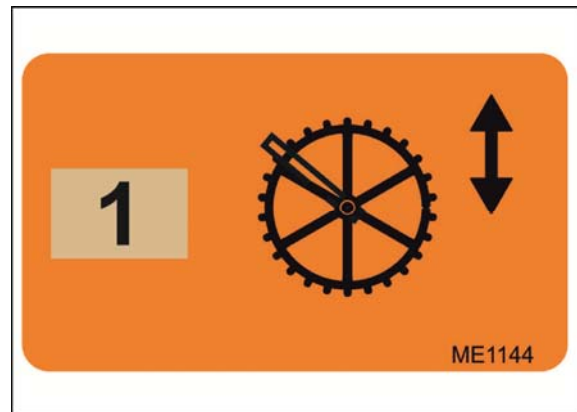
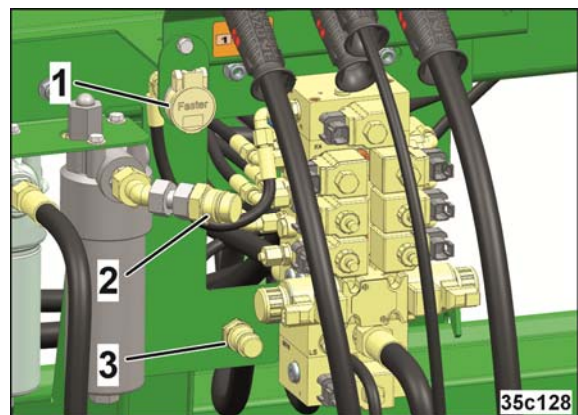

Fig. 39
Fig. 40
⁽¹⁾ ED xx00-2FC: In combination with a hydraulic seeding unit drive, the blower fan return flow from the front hopper must be fed into the seeding unit drive (Fig. 40/2). This is not unpressurised. In this case, an additional leak oil connection is available (Fig. 40/3).
- Star wheel lift-out (*beige*) (Fig. 39), only with standard and comfort hydraulic systems
- Star wheel lift-out (*beige*) (Fig. 39 on Fig. 40/1), only for Profi hydraulic system
- Metering hydraulic motor (*red*), (Fig. 40/2)
- Leak oil connection (*red*), (Fig. 40/3), in combination with a hydraulic seeding unit drive.